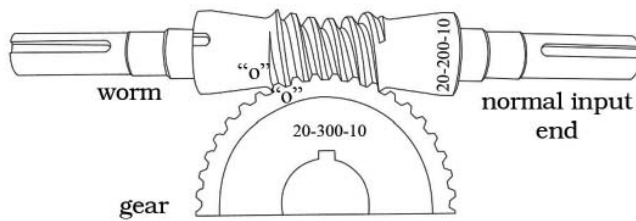

Figure 1
“O” markings will appear on many multiple threaded worm gearsets. When “O” markings are present, care should be taken during assembly to ensure that the “O” marks are properly aligned. As indicated in figure 1, when properly aligned, the “O” stamped worm thread will pass through the “O” stamped space between two gear teeth.
1. Coat gear teeth and worm threads with a nondrying contact paste. Caution: On some multiple threaded worms, a zero marking will be on the worm and gear. These must be matched during the assembly of the gear and the worm. (refer to "O" marking in figure 1).